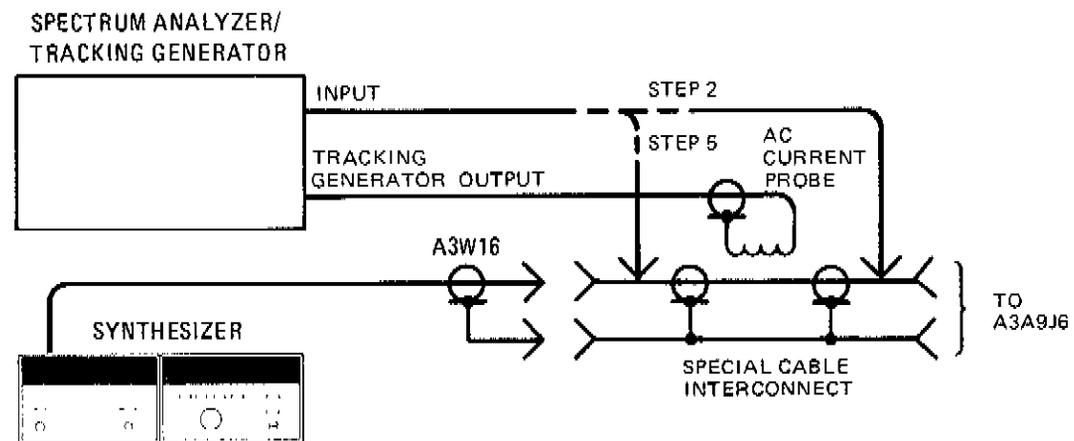

Figure 5-8. YTO Loop Phase Detector Adjustment Test Setup
2. Connect the equipment as shown in Figure 5-8. The special interconnect cable is inserted between A3W16 (grey cable) and A3A9J6 (YTO Tune 1).